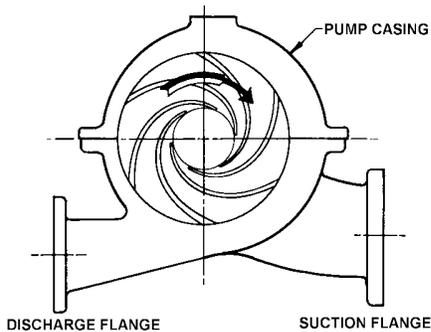

FIGURE 3. VANE POSITION FOR PROPER ROTATION
- Coat the shaft (6) lightly with oil.
- Place impeller key (32) in shaft keyway.
- Align impeller (2) on shaft and install with an arbor press or brass tubular sleeve and hammer. Guard against bending shaft. When assembled, the impeller vanes must rotate in the proper direction. (See Figure 3), and impeller hub must be centered on shaft journal.